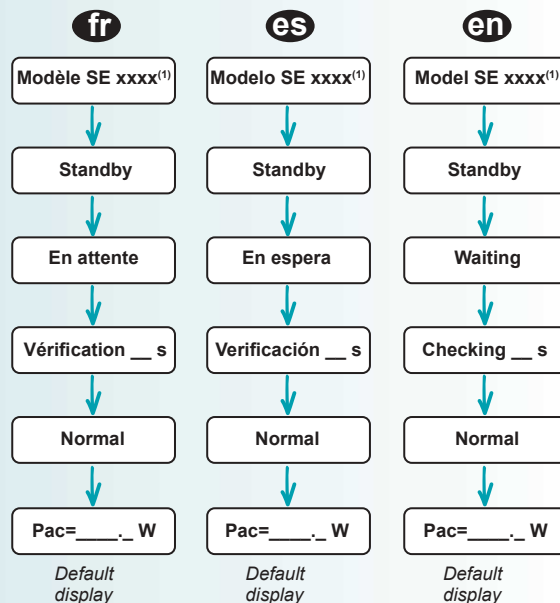

Fig. 14
- Once the DC voltage level is sufficient, the SunEzy inverter successively and automatically displays the information shown in the diagram below (Fig. 14) depending on the chosen language.